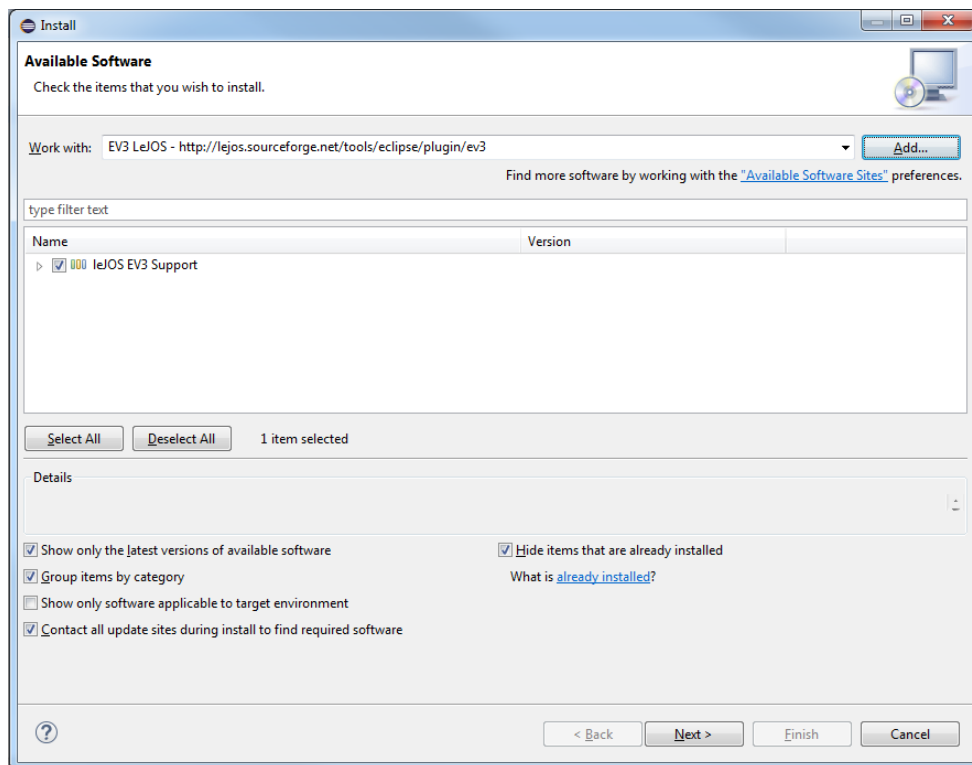

Figure 12
6. In a few seconds "leJOS EV3 Support" will appear in the selection box. Check the tick box next to this and click Next. Eclipse will now calculate the requirements and dependencies for the plugin, this step can take a minute or so. (see Figure 12)